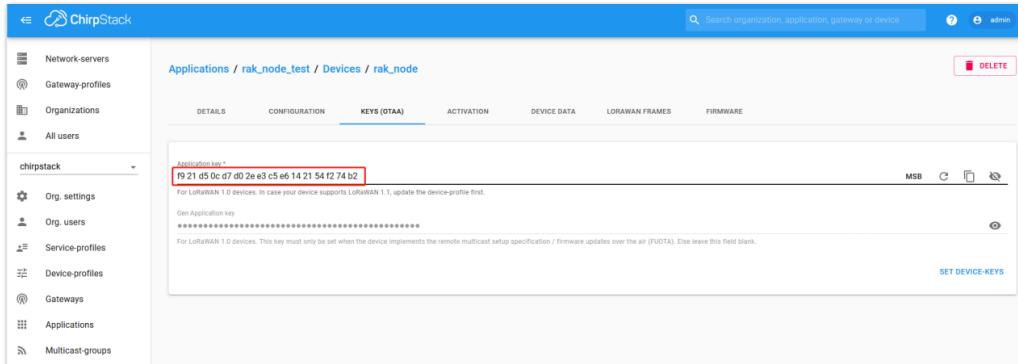

Figure 208: Application key associated with the new device
4. To end the process, it is a good practice to review that the Application Key is properly associated with this device. The Application Key can be verified in the **KEYS (OTAA)** tab, as shown in **Figure 208**.